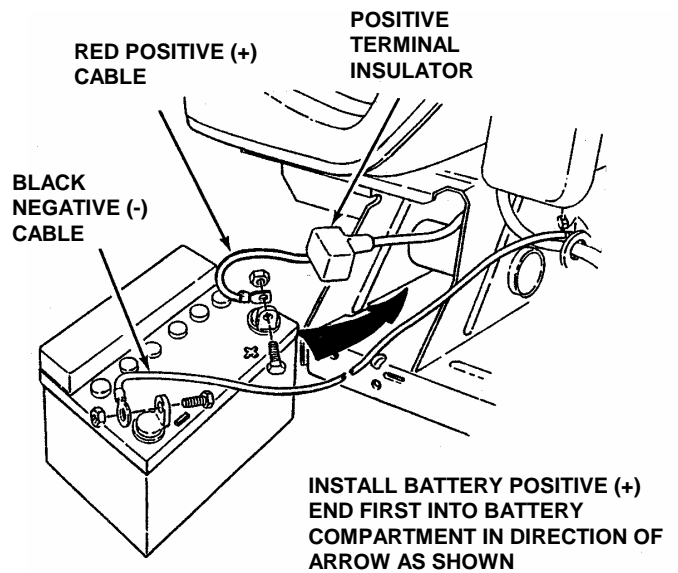

FIGURE 4.16
4. Observe and note cable positions on battery. See Figure 4.16.
Cables must be connected to battery terminals in the proper position as show in Figure 4.16. DO NOT attempt to charge battery while installed on the Rear Engine Rider. DO NOT use "BOOST" chargers on the battery.